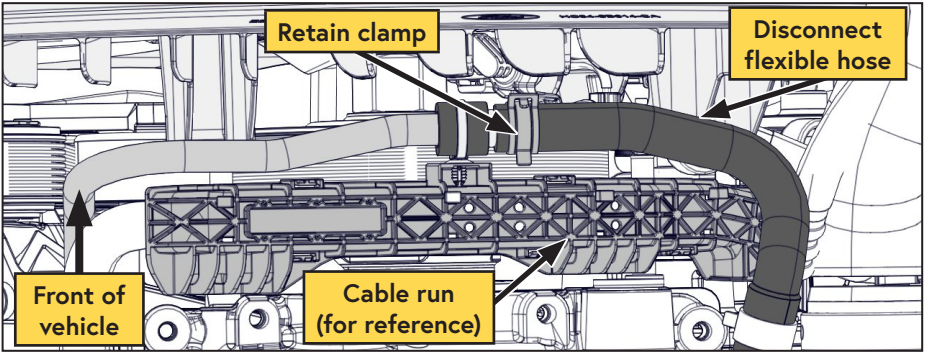

Figure 34 — Disconnect the heater return hose
- Disconnect the small flexible hose secured to the cable run tray on the front of the engine, above the steering linkage, from the metal coolant tube. Retain the OEM spring clamp (Figure 34).